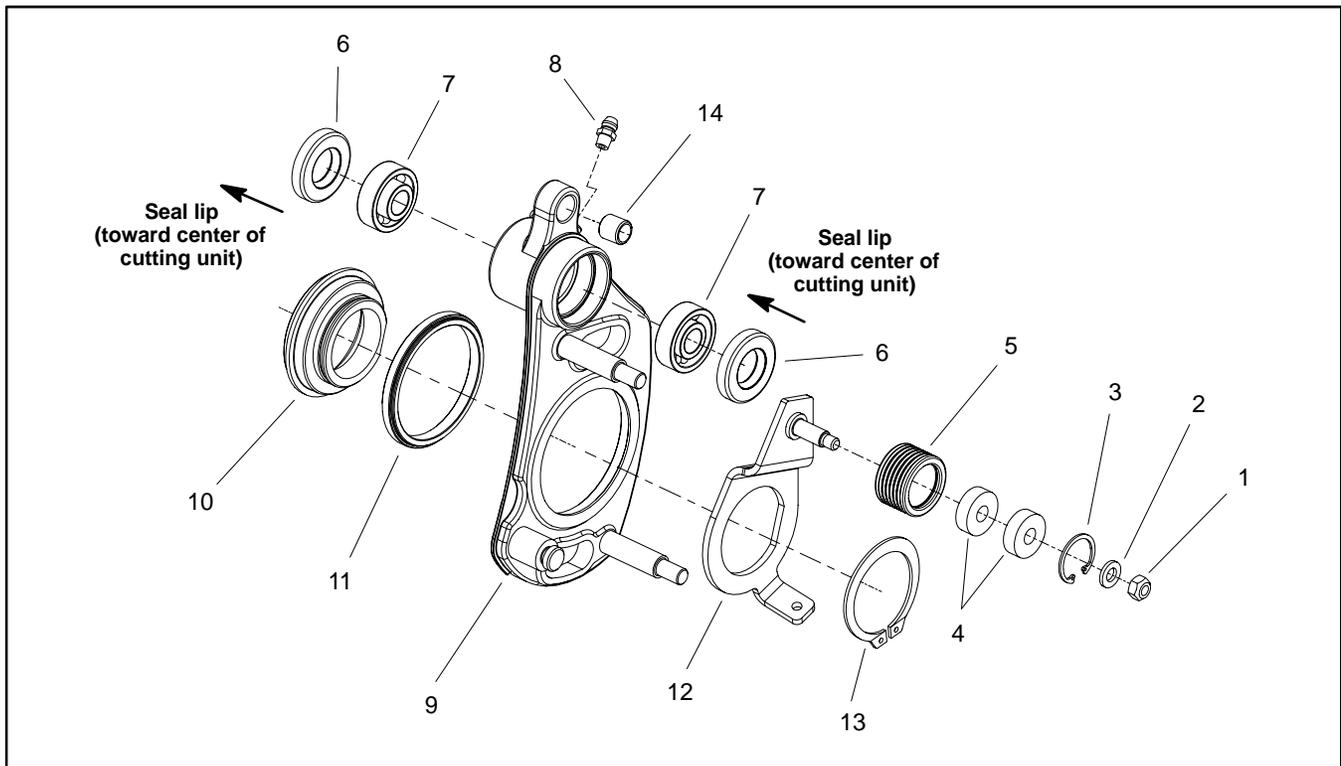

Figure 16
Note: The groomer reel drive is located on the opposite side of the cutting unit from the cutting reel hydraulic motor. Figure 16 shows the groomer reel drive from the left side of the cutting unit.
2. Using Figures 16 and 17 as guides, remove idler bracket, idler pulley and/or idler bearings as needed.
1. Reassemble components using Figures 16 and 17 as guides.